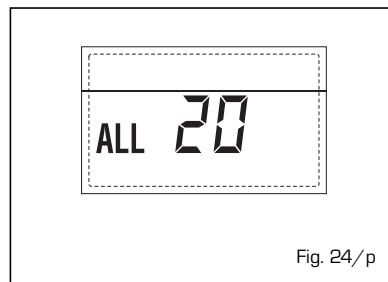

Fig. 24/p
**- DELIVERY PROBE BREAKDOWN ANOMALY FIRST MIXED ZONE "ALL 21" (fig. 24/q)**